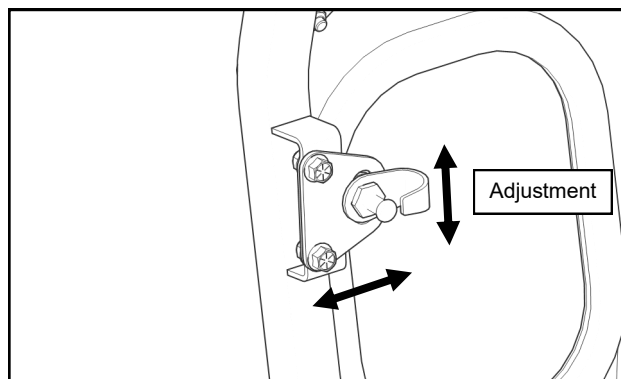

Fig. 27.3 (Striker Pin Adjustment)
- 27.3** See fig. 27.3. Stand back and examine the alignment of the door with the roof and the A-pillar. You can adjust this by moving the striker pin up or down as shown to help with alignment. *TIP: In the final step, the front of the door will drop a small amount the first time you open it. Set the front of the door a little bit higher so it aligns properly.* Adjust as necessary until you are happy with the alignment. Have an assistant sit inside the cab and once more carefully close the door like you did in step 27.2. Work with the assistant and tighten the hinge bracket bolts.
- 27.4** Open the door and check for smooth operation of the latch. As noted in step 27.3, the door will likely drop a little bit at the front and the striker pin will need to be adjusted down accordingly. Also make sure the door seal is making contact along the perimeter of the door and the latch clicks twice when closing. If necessary, adjust the striker in or out to achieve this (see Figure 27.3).